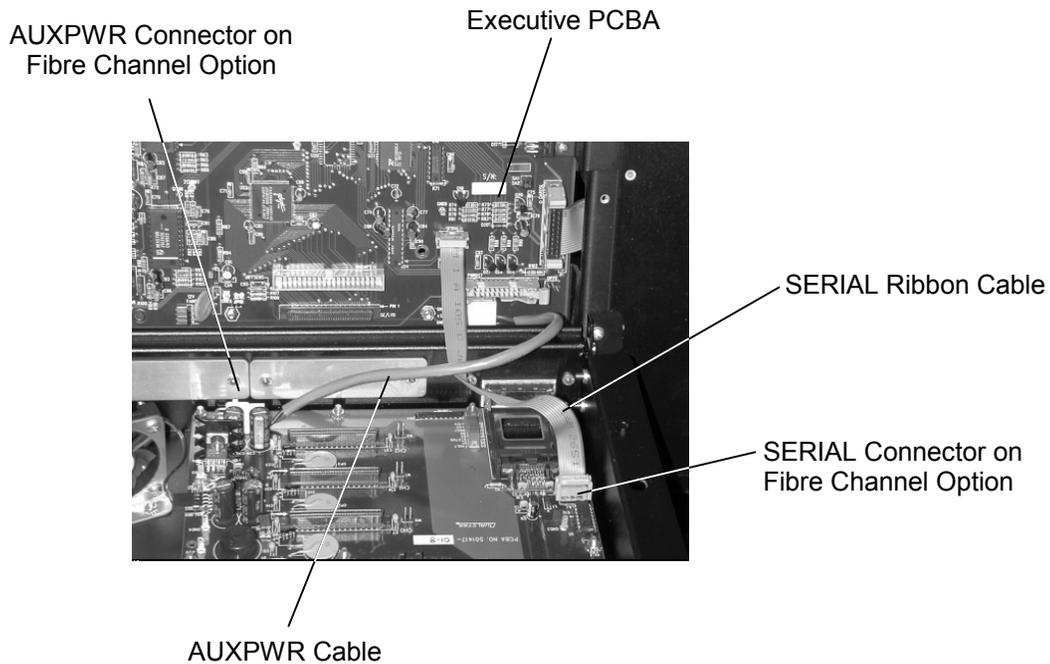

Figure 9-4 Detail of AUXPWR and SERIAL Connections in a Type A FCO
7. Carefully disconnect the AUXPWR cable from the AUXPWR connector on the Fibre Channel Option. See Figure 9-4.
8. Carefully disconnect the SERIAL ribbon cable from the SERIAL connector on the Fibre Channel Option. See Figure 9-4.